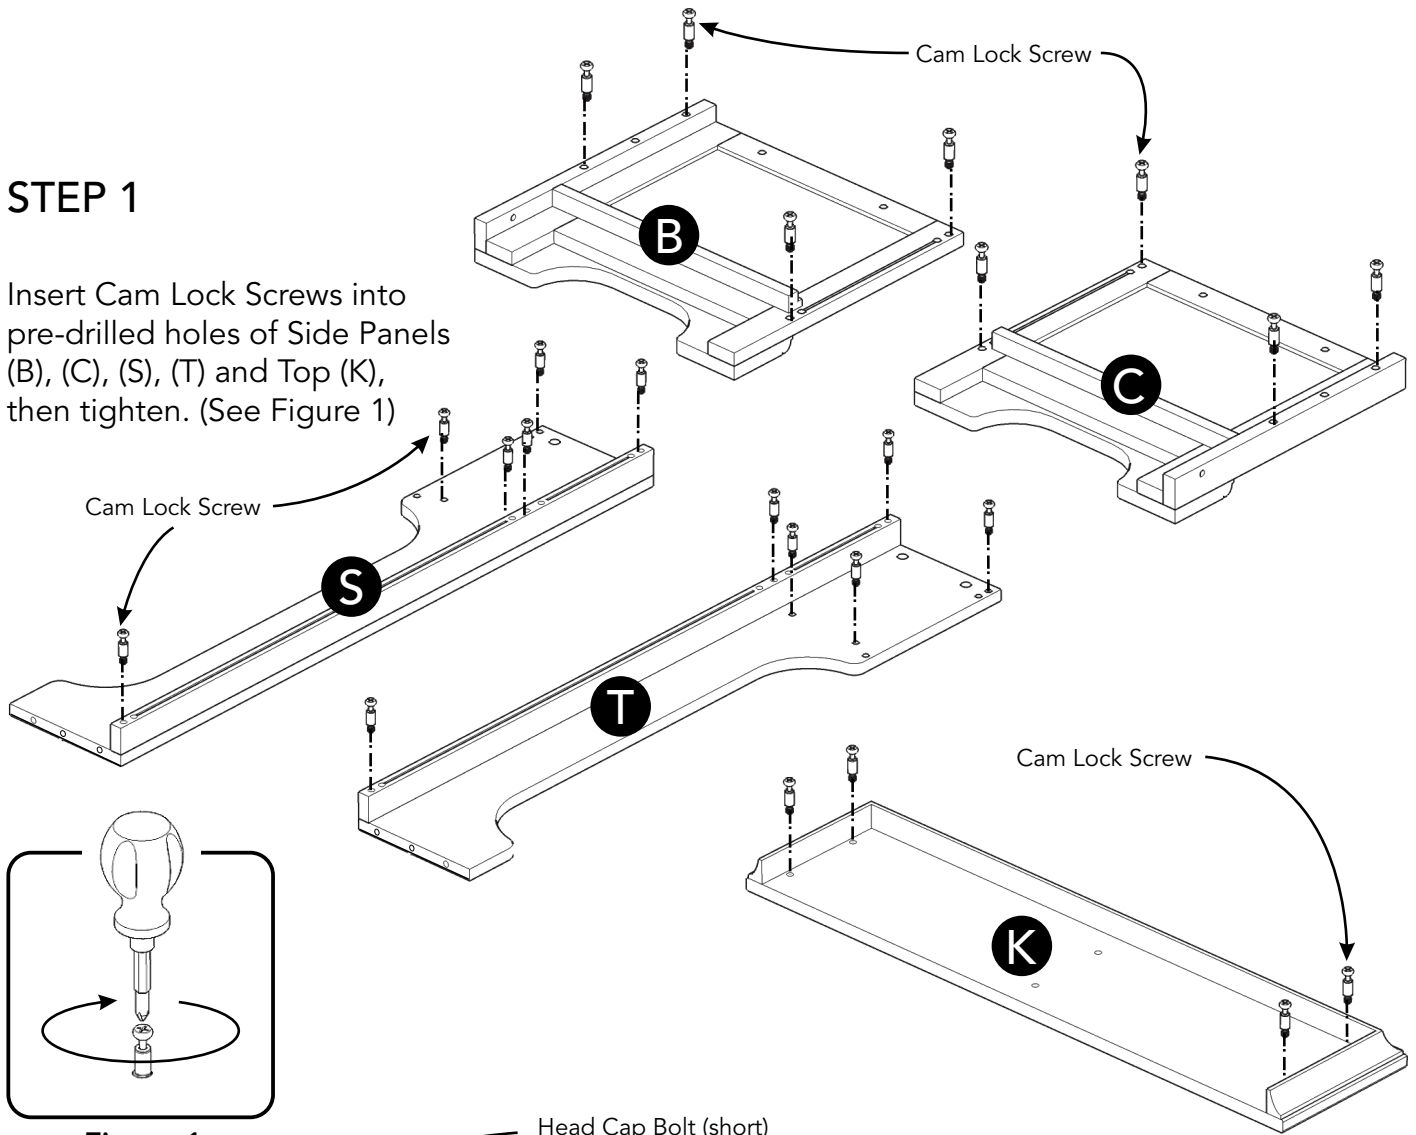

Figure 1
Insert Cam Lock Screws into pre-drilled holes of Side Panels (B), (C), (S), (T) and Top (K), then tighten. (See Figure 1)